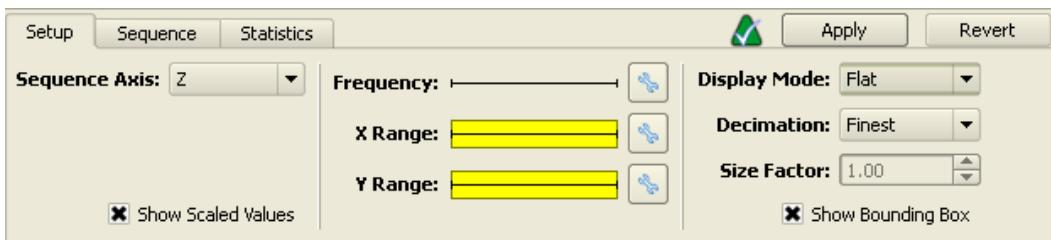

Figure 8.19: Setting the view of the SAR sensor data
- Under the SETUP tab, as seen in Figure 8.19, adjust the following settings: